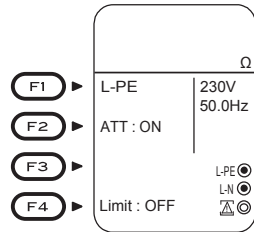

Fig. 37-1
(1) Press F4 switch in stand-by mode.(fig37-1)